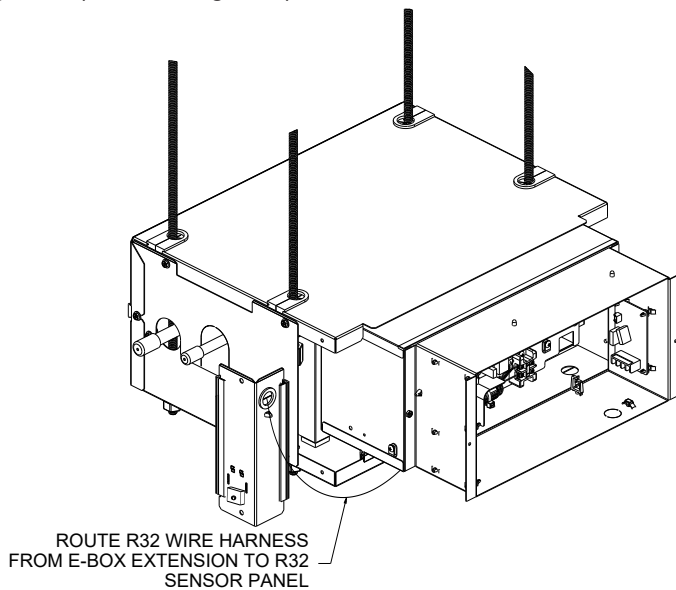

**FIGURE M.2**
**5.6** Route the R-32 wire harness from the E-Box Extension through the grommet on the R-32 Sensor Panel. Ensure the harness passes through from the exterior side of the panel. (Refer to Fig. M.2)